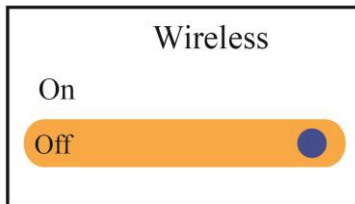

Figure 4.10E Wireless setup
- **Wireless:** To turn on/off the wireless connection function, the factory default is "On", as shown in figure 4.10E.